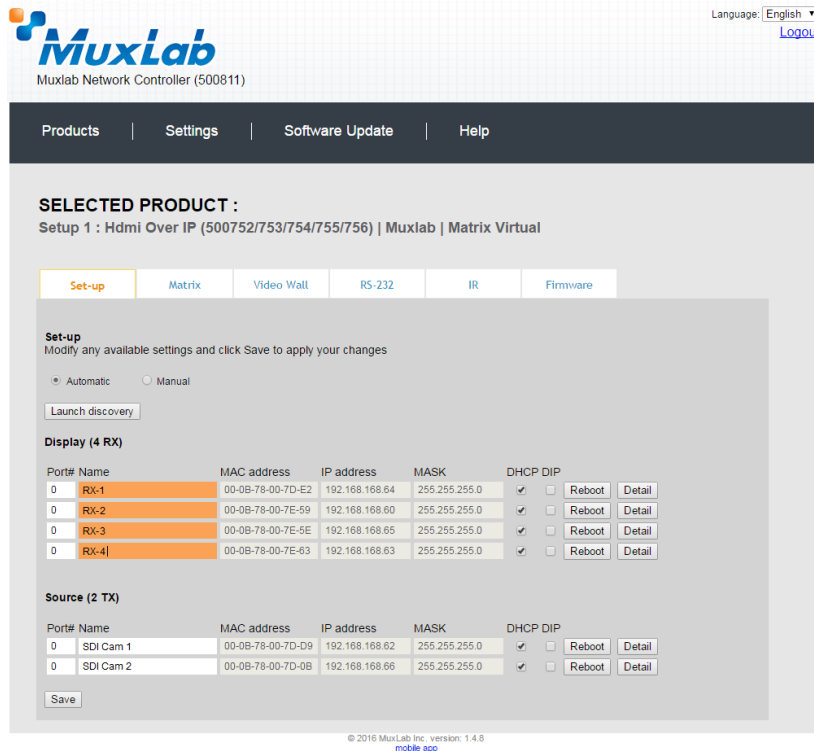

Figure 153: Name Editing
Each 500756 transmitter and receiver can be assigned an arbitrary descriptive name, normally reflecting the end device that it is terminated to. To change the name of any Display (RX) or Source (TX) device, click the **Name** field to edit its contents. Several **Name** fields can be edited before saving changes, as shown in Figure 153 (orange highlighted fields).